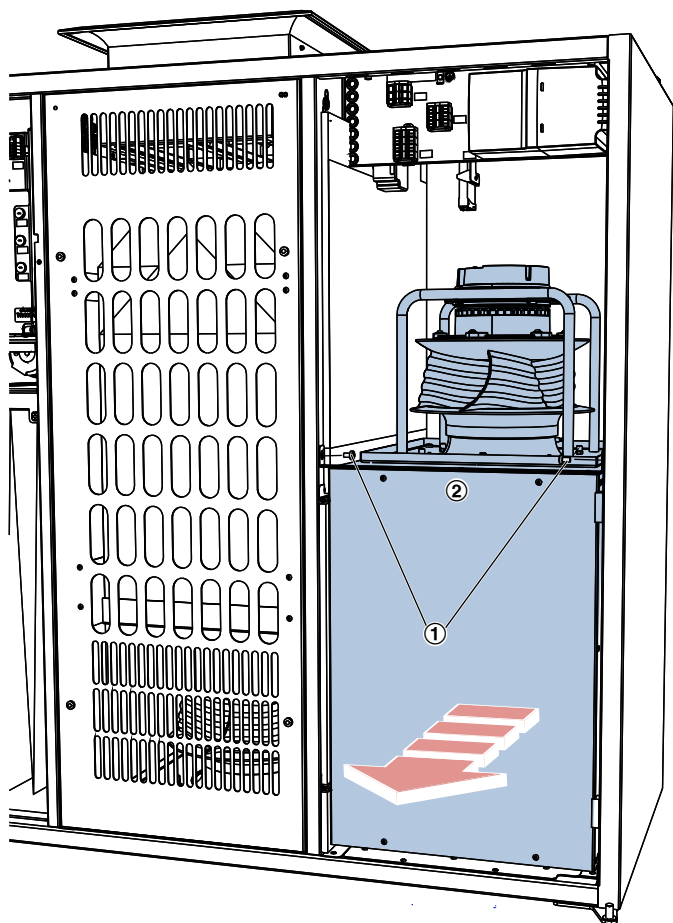

Fig. 12: Removing the extract air fan and sound attenuator
6. ▶ Disconnect the connecting cable from the extract air fan at the plug. Loosen the screws (Fig. 12 /1) and pull out fan with sound attenuator (Fig. 12 /2) to the front.